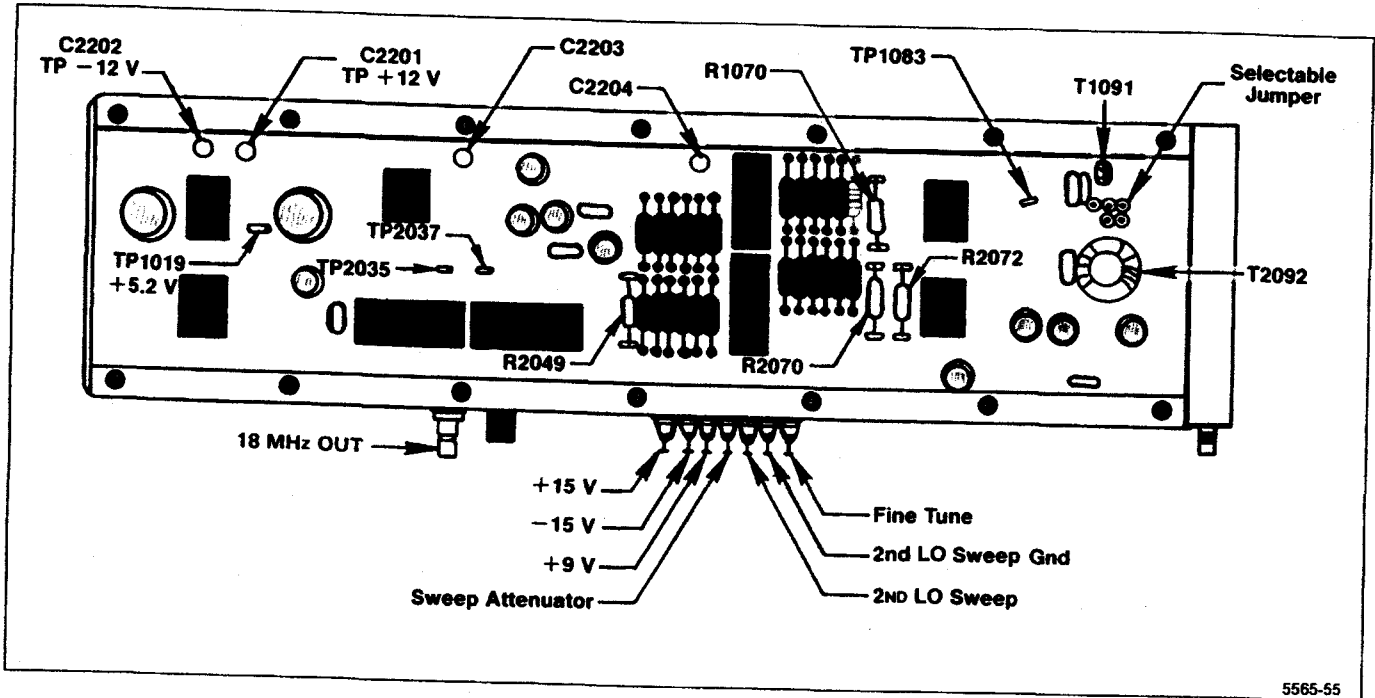

Figure 6-20. 16—20 MHz Phase Lock circuit test point and component locations.
Remove the 14 screws that hold the cover on the mu-metal section and remove the cover. Unsolder the leads to feedthrough capacitors C2203 and C2204. (These are the center two feedthrough terminals that feed through the circuit board, as shown in Figure 6-20.)
4. Remove the mu-metal lid and reconnect the leads to feedthrough capacitors C2203 and C2204, on the Phase Lock board (Figure 6-20). Replace the lid and install the 14 screws. Tighten the screws from the center toward the corners of the lid to prevent gaps between the lid and the housing. Do not overtighten because the screws are easily stripped.
a. Check all input voltages at the feedthrough capacitors in the housing wall. Refer to Figure 6-20 or the data printed on the lid. The voltage LEVEL at the sweep and tune input lines should be 0 V  $\pm$  0.05 V with the FREQ SPAN/DIV  $\geq$  500 kHz.
d. Tune the 2nd LO to one end of its range where the frequency readout no longer changes. Note the frequency and measure the voltage on the Tune Line at the input feed-through capacitor (Figure 6-20).
g. If the frequency/volt change is low, decrease the value of R2072 (Figure 6-20).
(1) A shaper diode or resistor may be defective if the comb line spacing is consistent for part of the tuning range and 30 kHz or more off for the other parts of the sweep. To test the diodes for forward conduction, tune to the low end of the range and short R2049 (Figure 6-20). The output of U1073A (pin 1) should equal about +3 V. U1059 diodes B through G and U2059 diodes A through F should all have a 0.48 V forward drop. Use a floating or digital voltmeter to check the drop.
(2) Turn POWER off then temporarily replace Shaper resistor R2049 with a 20 k $\Omega$  potentiometer. Switch POWER on, and adjust the potentiometer to obtain the best overall linearity; decreasing resistance will decrease the spacing between comb lines in the upper portion of the tune range and spread the spacing for the lower portion. Increasing the resistance of R2049 will reverse the effect. When the correct setting is found, turn POWER off, measure the resistance, and replace with a fixed resistor of the same or near the same value.